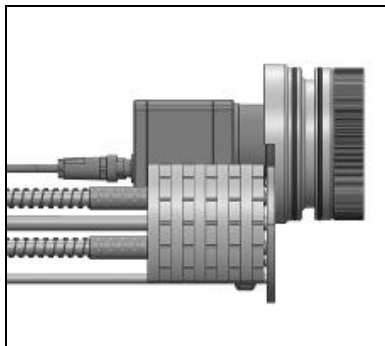
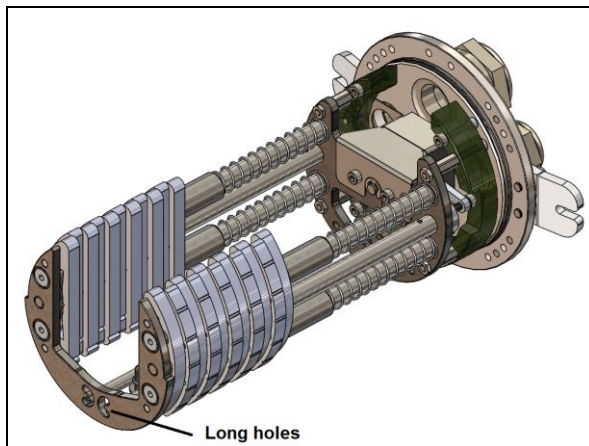
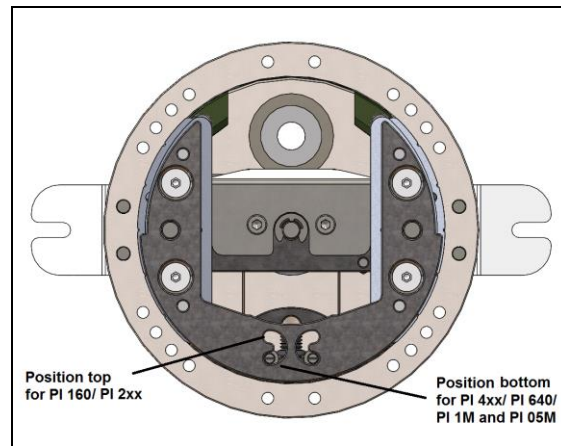
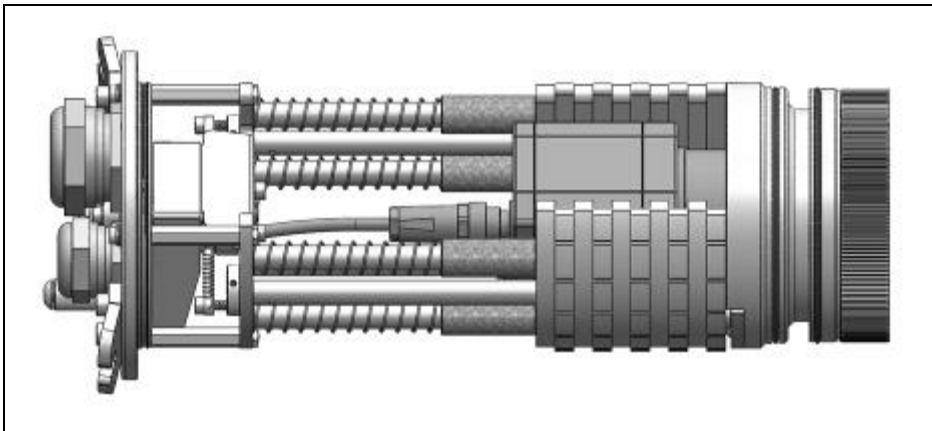

Figure 29: Inserting of the focusing unit
Figure 30: Long holes on the bottom of the chassis
Figure 31: Positioning the two bars in the slot for different cameras
Figure 32: Focusing unit with camera
2. Seat the focusing unit or front part in the chassis (**Figure 29**). Pay attention to the correct positioning of the two bars at the bottom of the chassis. These must be moved in the slot for the respective camera used (**Figure 30, Figure 31**). Position it as shown in **Figure 32**, by pushing it to the bottom.